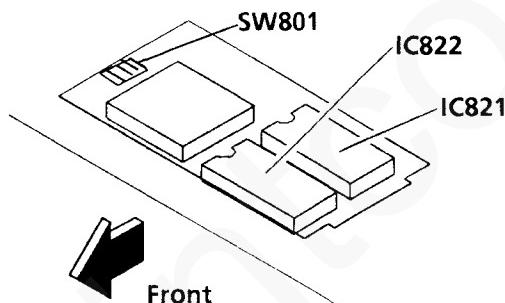

Figure 2. EPROMS and SW801
7. Remove EPROMS IC821 and IC822 (figure 2).
1. Set the switches on SW801 (figure 2) to equal the switches on the removed PWB.
5. Remove EPROMs IC821 and IC822 (Figure 2).